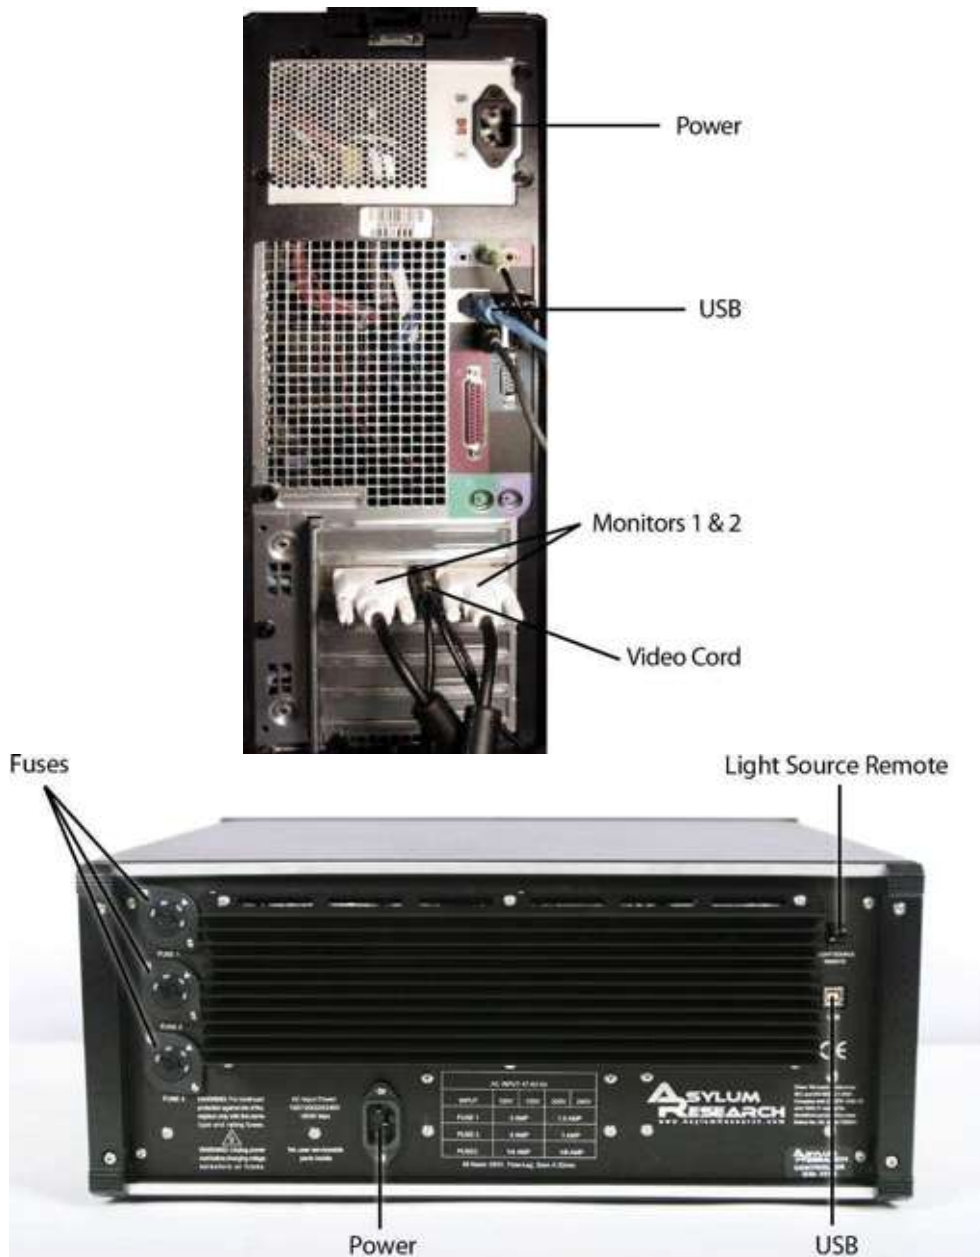

Figure 4.12 A Power Connections – Back of the Computer B Power Connections – Back of the Controller
1. Connect the following system power cords (See Figure 4.12):